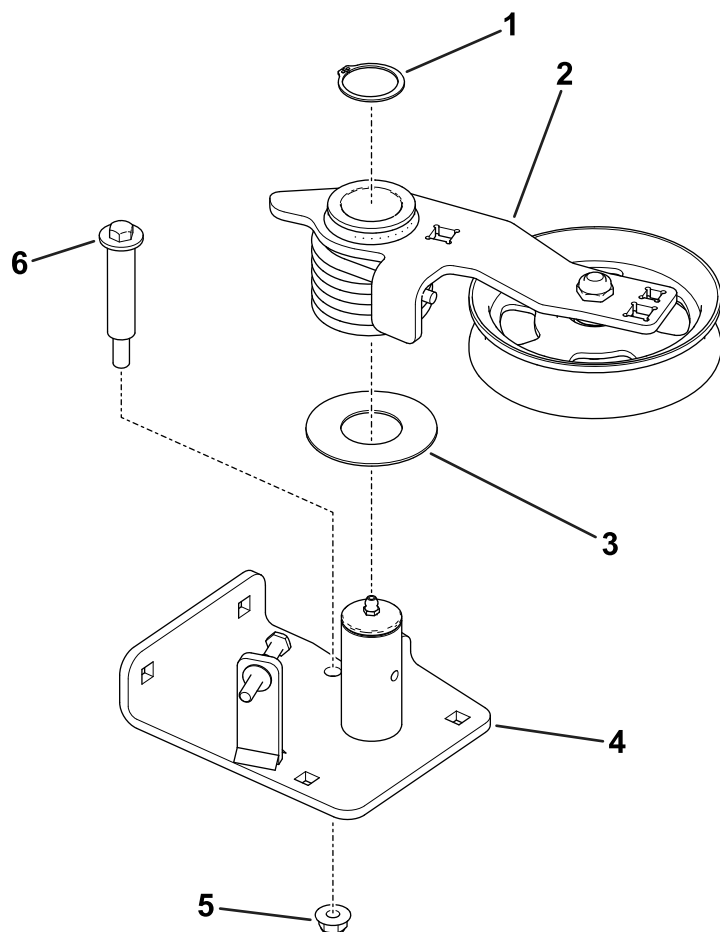

Figure 4
5. Remove the shoulder bolt from the idler pivot plate then unload the idler spring tension (Figure 4).
6. Remove the retaining ring that retains the idler arm to the idler pivot (Figure 4).